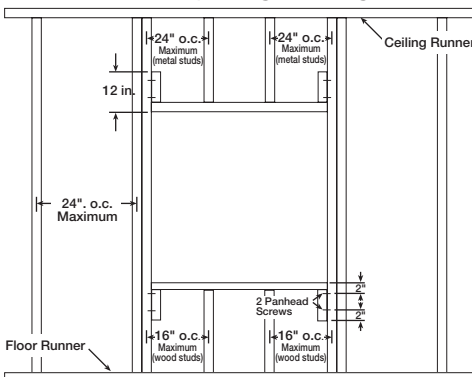

Figure 3 — Opening in Stud Wall
a. Frame wall openings, see Figure 3.